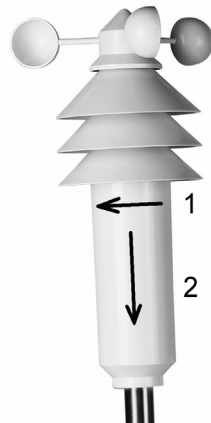

Fig. 1
- Then close the housing of the multipurpose sensor again, slide the cover upwards and lock it by turning it to the right (reverse direction than shown in Fig. 1).